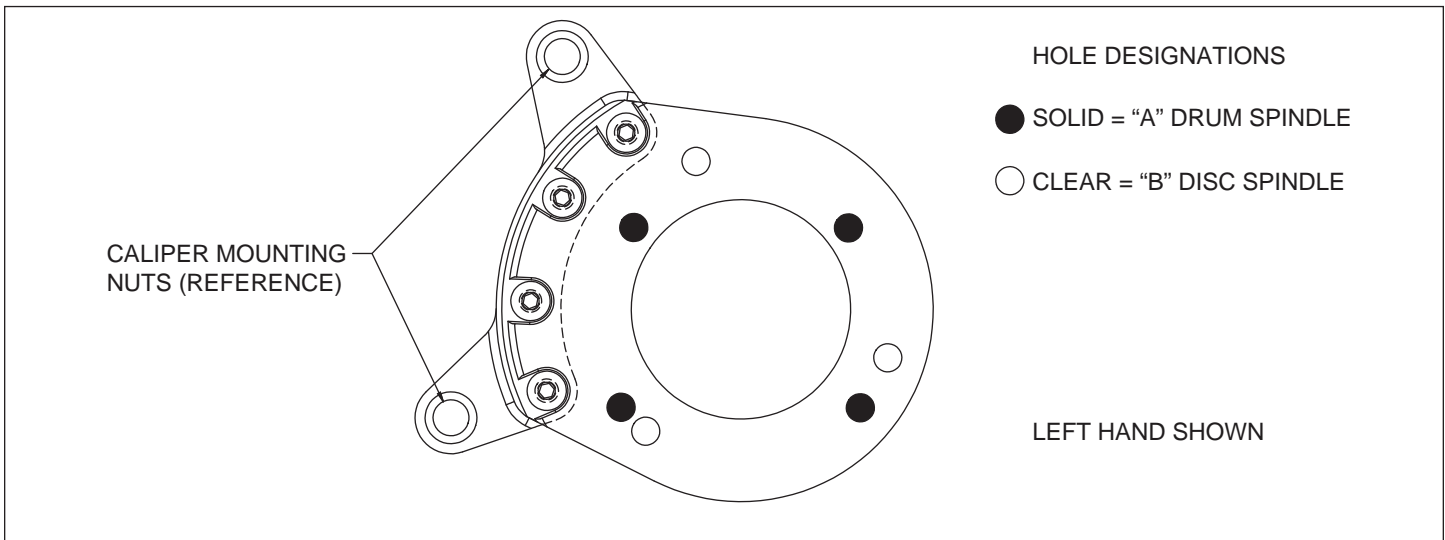
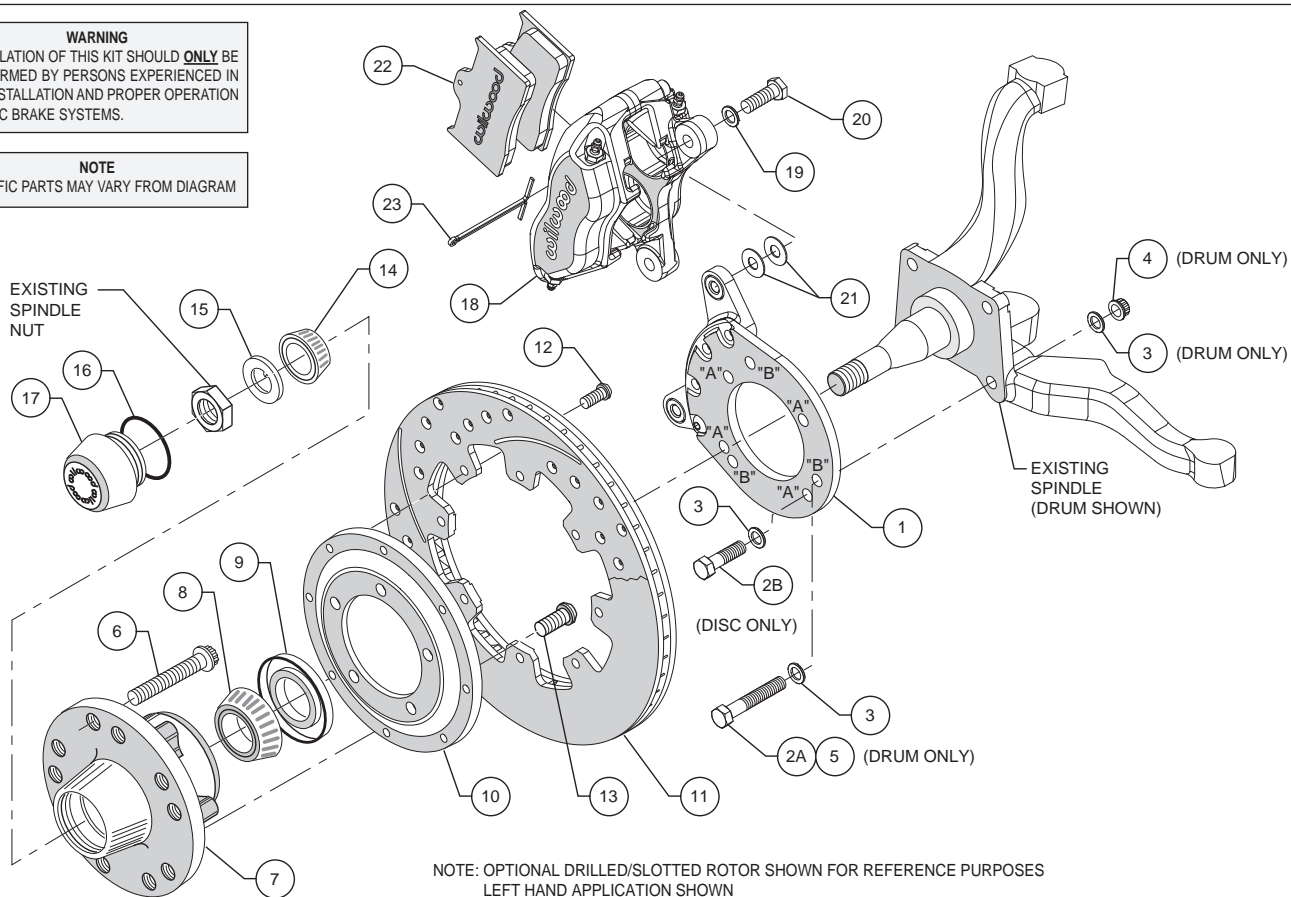
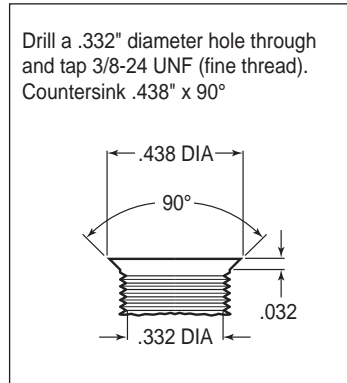
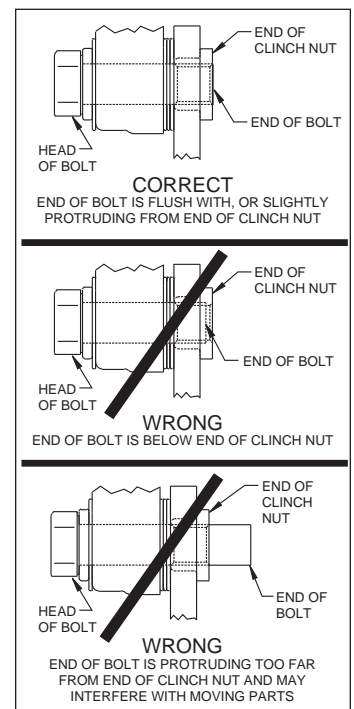

Figure 1. Wilwood Caliper Mounting Bracket
Figure 2. Typical Installation Configuration
Figure 3. Drill and Tap Detail
Figure 5. Clinch Nut Engagement Diagram
This kit has been designed for use with both the disc brake or the drum brake configuration of vehicle. The only difference is in how the Wilwood caliper mounting bracket is installed. The same bracket is used for both configurations; the disc brake version utilizes three mounting holes while the drum brake application uses four mounting holes (see Figure 1). For your convenience we have supplied bolt kits for both applications (see parts list and Figure 2 as necessary). Use the bolt kit that is applicable to your vehicle and disregard the other one.
NOTE: This modification should be performed by a qualified machinist and completed before assembly of the Wilwood disc brake kit begins. Using the caliper mounting bracket as a template (refer to Figure 1 as necessary), locate and verify the three original holes on the spindle that need to be modified. Drill a .332" diameter hole through all three holes, then tap 3/8-24 UNF (fine thread). Countersink the holes to .438" diameter x 90°, as shown in Figure 3.
Assembly Instructions (numbers in parenthesis refer to the parts list, and Figure 2 on the preceding pages): **CAUTION:** All mounting bolts must fully engage clinch nuts. Be sure to check that all bolts are either flush or protruding through flanged side of clinch nut after shimming, Figure 5.
•**NOTE:** This kit uses the same mounting bracket (1) for both the drum and disc brake spindles. The drum version, Photo 1, uses four mounting bolts (designated "A"), while the disc version, Photo 2, uses three (designated "B"). Refer to Figures 1 and 2 for the basic installation position of the bracket and the "A" and "B" reference designations (not physically marked on the brackets).
For Drum Spindle: Align bracket, using the four "A" holes, to the face of the spindle and attach using bolts (2A and 5), washers (3), and lock nuts (4), as shown in Figure 2. Ensure that the flanged heads of the clinch nuts in the bracket are facing outboard, Photo 1. Torque nuts to 30 ft-lb.
For Disc Spindle: Align bracket, using the three "B" holes, to the face of the spindle and attach using bolts (2B) and washers (3), as shown in Figure 2. Finger tighten. Ensure that the flanged heads of the clinch nuts in the bracket are facing outboard, photo 2. Remove bolts one at a time, apply red *Loctite*® 271 to threads, and torque to 40 ft-lb.
- Pack the large inner bearing cone (8) with high temperature disc brake bearing grease (available from your local auto parts store) and install into the backside of the hub (7), Photo 4.
- Install the grease seal (9) by pressing into the backside of the hub (7), flush with the end of the hub, Photo 4.
- Orient the rotor (11) and the rotor adapter (10) as shown in Figure 2 and Photo 5. Attach the rotor to the adapter using bolts (12). Using an alternating sequence, apply red *Loctite*® 271 to the threads, and torque to 25 ft-lb.
- Mount the adapter/rotor assembly (10/11) to the hub (7) using bolts (13), as shown in Figure 2 and Photo 6. Using an alternating sequence, apply red *Loctite*® 271 to the threads, and torque to 55 ft-lb.
- Pack the small outer bearing cone (14) with high temperature disc brake bearing grease and install into hub (7). Slide the hub/rotor assembly onto the spindle. Secure using spindle washer (15) and OEM spindle nut, Photo 7. Adjust bearings per OEM specifications. Install saved OEM nut lock (if any) and a new cotter pin (not included).
- Screw dust cap (17) into hub (7), Photo 8. Friction created by the o-ring (16) on the dust cap keeps it from unscrewing. **NOTE:** The O.D. of the existing OEM spindle washer may be larger than the I.D. of the dust cap not allowing it to seat against the hub face. Therefore, use the spindle washer (15) supplied with the kit instead of the OEM washer.
- NOTE:** Please reference the caution statement at the beginning of the assembly instructions. Mount the caliper (18) onto the caliper mounting bracket (1) using bolts (20) and washers (19), as shown in Figure 2. Initially place two .035" thick shims (21) on each bolt between the caliper and the bracket, Photo 9. Temporarily tighten the mounting bolts and view the rotor (11) through the top opening of the caliper. The rotor should be centered in the caliper, Photo 10. If not, adjust by adding or subtracting shims between the bracket and the caliper. Always use the same amount of shims on each of the two mounting bolts. **NOTE:** The end of each bolt must be flush with or slightly protruding from the head of the clinch nut, as shown in Figure 5. If necessary place spare shims between washer (19) and caliper mounting ear to achieve the proper clinch nut engagement. Once the caliper alignment and clinch nut engagement are correct, remove the bolts one at a time, apply red *Loctite*® 271 to bolt threads, and torque to 40 ft-lb.
- Install the disc brake pads (22) into the caliper, with the friction material facing the rotor (11), and secure in place using cotter pin (23), Photo 11.